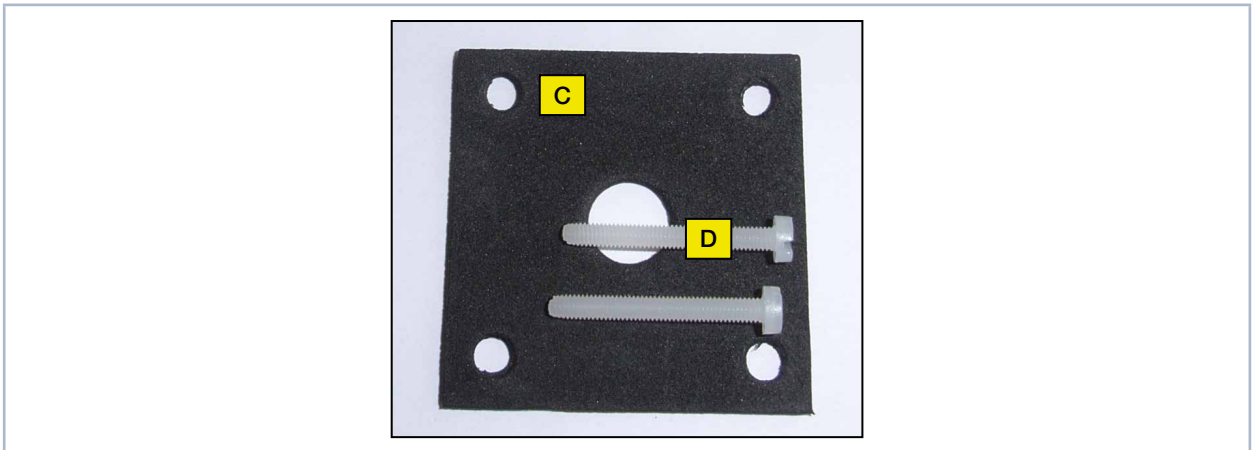

Fig. 16.5: Assembling a new detector
1. Place the foam rubber spacer (C) on the mounting surface of the detector (see Fig. 16.5 on page 67).